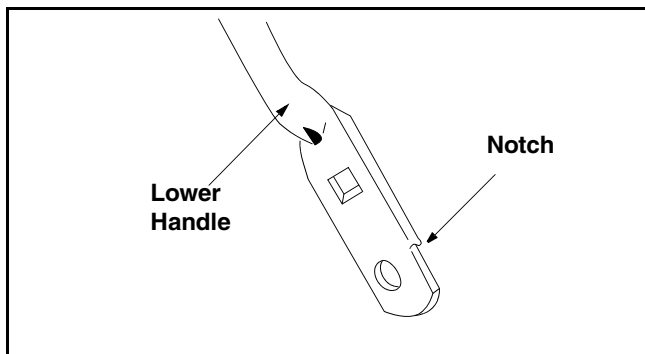

Figure 14
- Turn the lower handle around so the notch on the bottom of the lower handle is facing forward as shown in Figure 14 . Reassemble, placing the bottom holes in the handle over the weld pins in the handle mounting bracket.